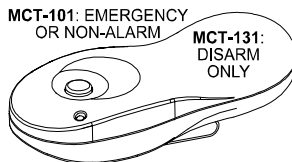

Figure 15. MCT-131 / 101
E. MCT-131 / 101* (Fig. 15): (N.A. in North America) Single-button units. The MCT-131 (CodeSecure) and the MCT-101 (PowerCode) can be enrolled to perform functions as shown. Both units look alike.